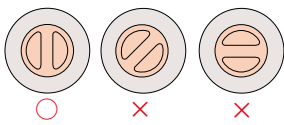

Fig.2
- To center the piping for JIS 10K flange, insert centering sleeves on the bolts and install the bolts to support the valve at the bottom and prevent it from falling through (only for 100, 125 and 150mm sizes). (Fig.2)
[Fig.2]
- For horizontal installation, have the rib of the Bata-Check aligned vertically. (Fig. 2)